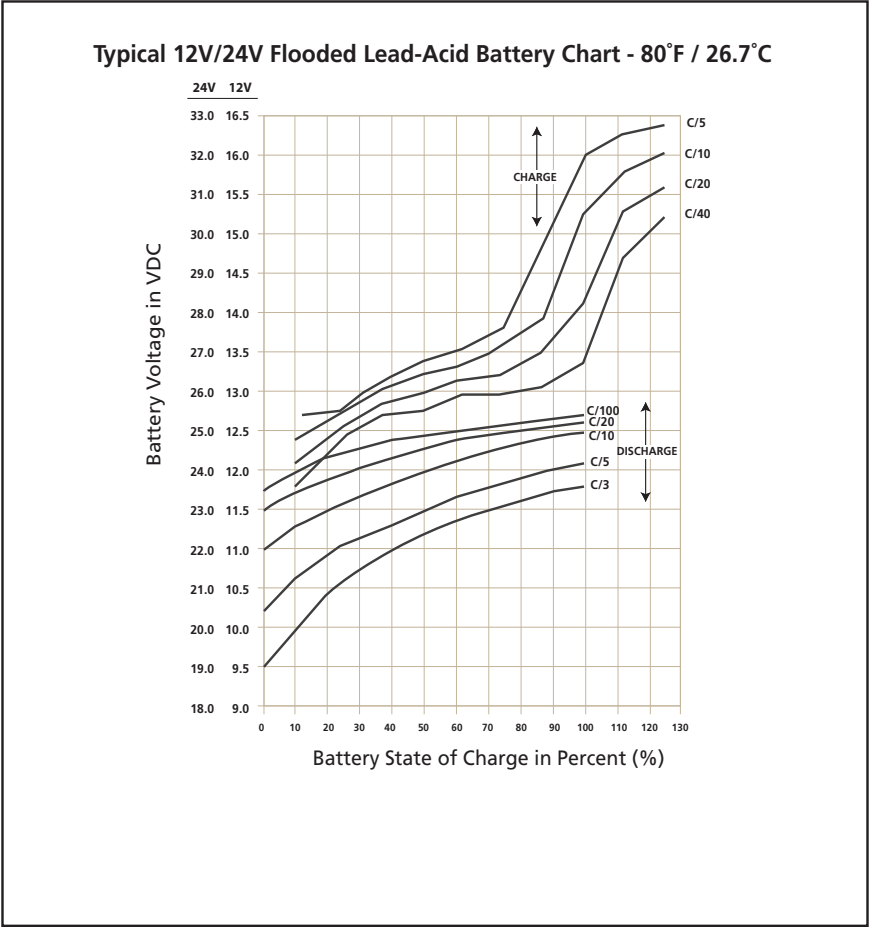

Fig 7.1 Charging / Discharging Curves for Typical 12V/24V Flooded Lead Acid Battery
7.7.1 Fig 7.1 shows examples of State of Charge / Discharge Curves for different C-rates for typical 12V / 24V Lead Acid Battery at 80°F / 26.7°C. These curves are used to determine the State of Charge / Discharge of the battery based on its terminal voltage.
7.7.2 Example of Determining State of Charge (using Fig 7.1) when Charging 12V, 100Ah Battery at C-rate of 0.1C or C/10 or 10A: Refer to Charge Curve marked C\10 of the upper 4 curves marked "CHARGE". States of Charge at different battery terminal voltages will be: (a) At 15.3V = 100% charged; (b) At 14.3V = 90% charged; (c) At 13.5V = 70% charged; (d) At 12.5V = 15% charged
7.7.3 Example of Determining State of Discharge (using Fig 7.1) when Discharging 12V, 100Ah Battery at C-rate of 0.33C or C/3 or 33.3A: Refer to Charge Curve marked C\3 of the lower 4 curves marked "DISCHARGE". States of Discharge at different battery terminal voltages will be: [a] At 9.5V = 100% discharged (0% charged); [b] At 10.4V = 80% discharged (20% charged); [c] At 11.5V = 28% discharged (72% charged) and [d] 11.75V = 0% discharged (100% charged)
The discharge curves in Fig. 7.1 show the % State of Charge versus the terminal voltage of typical Flooded Lead Acid Battery under different charge /discharge currents, i.e. “C-rates” and fixed temperature of 80°F. (Please note that the X-Axis of the curves shows the % of State of Charge. The % of State of Discharge will be 100% - % State of Charge).
As stated earlier at Section 7.10, the buzzer alarm is triggered when the voltage at the DC input terminals of the inverter has dropped to around 10.5V for a 12V battery or 21V for a 24V battery at C-rate discharge current of C/5 Amps. Please note that the terminal voltage relative to a particular of State Discharge decreases with the rise in the value of the discharge current. For example, terminal voltages for a State of Discharge of 80% (State of Charge of 20%) for various discharge currents will be as given at Table 7.5 (Refer to Fig 7.1 for parameters and values shown in Table 7.5):
Inverters are normally provided with a protection to shut down the output of the inverter if the DC voltage at the input terminals of the inverter drops below a threshold of around 10V for a 12V battery or, 20V for 24V battery. Referring to the Discharge Curves given in Fig 7.1, the State of Discharge for various C-rate discharge currents for battery voltage of 10V/ 20V is as follows: (Please note that the X-Axis of the curves shows the % of State of Charge. The % of State of Discharge will be 100% - % State of Charge):